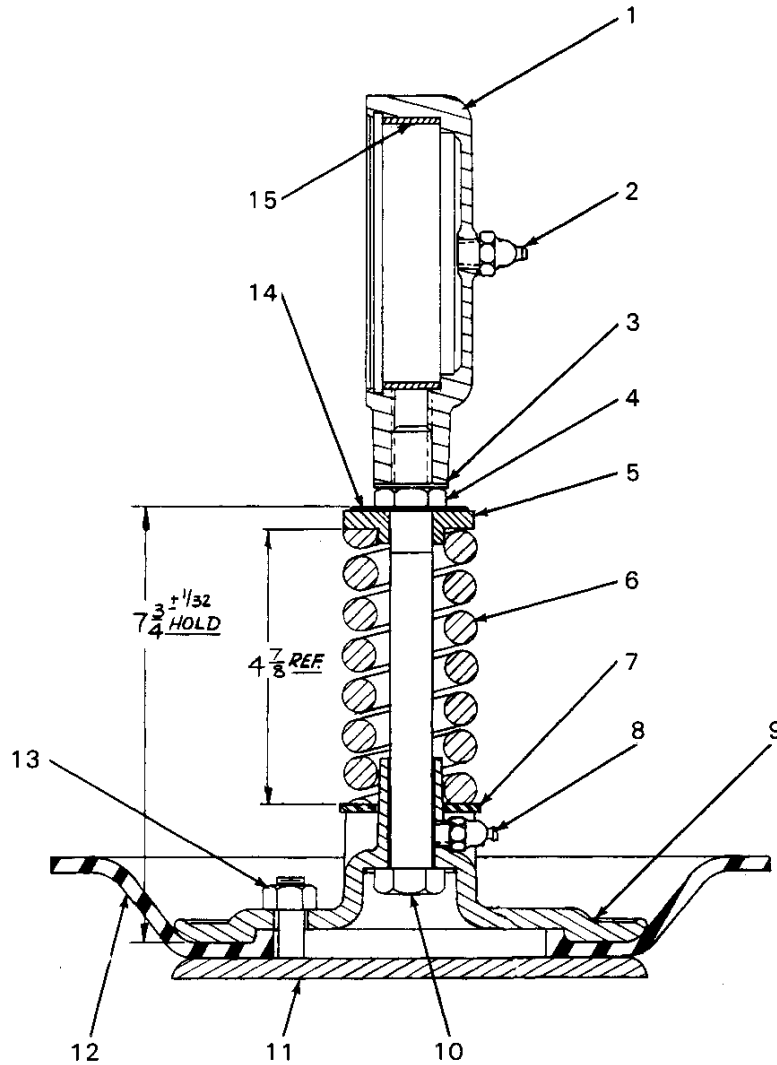

Figure 3. 5685 Plunger Rod Assembly
**Plunger Rod Disassembly (See figure 3)**
### **Plunger Rod Reassembly (See figure 3)**
Refer to figure 3, and tighten the jam nut until the spring is compressed to 4-7/8 inches. With the spring properly compressed, the distance between the bottom of the upper diaphragm plate and the top of the adjusting shims should measure 7-3/4 inches. Measure this distance, and add or remove adjusting shims until it is correct.